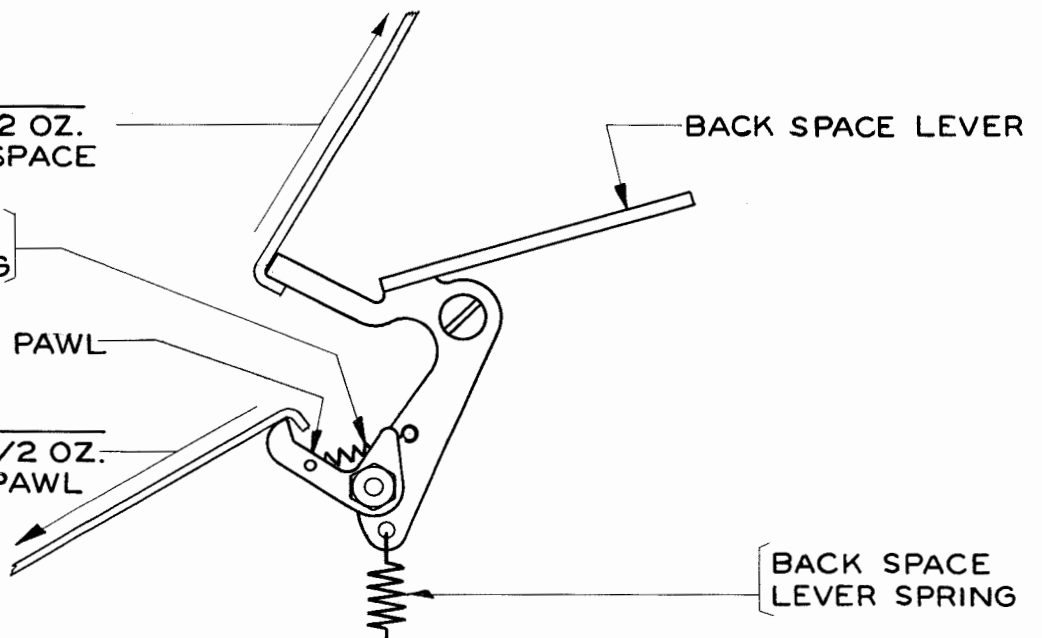

Figure 2
2.04 Back-space Feed-pawl Spring (See Figure 2): The feed-pawl spring tension requirement is that for the new-type feed pawl shown in the section covering the requirements and adjustments for the 14 typing reperforator unit.